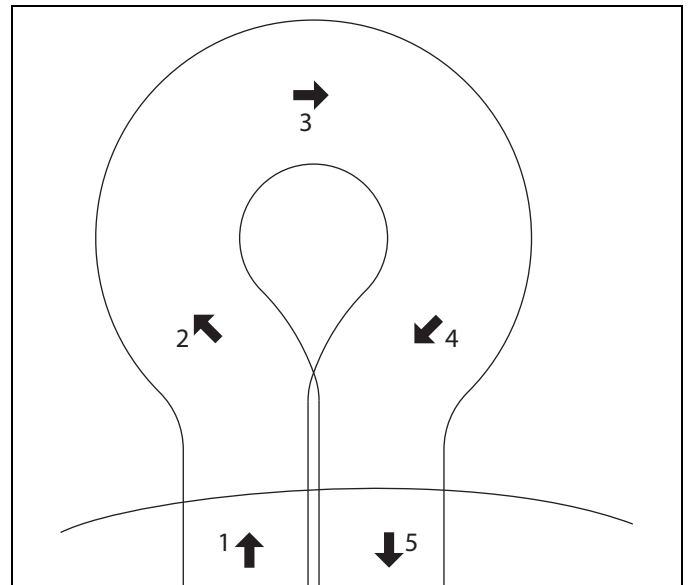

Figure 5C
- e. To turn to the right, start by turning mower slightly to the left **(2)**. When the mower has moved approximately 1/2 its own width to the left, swing it around quickly to the right **(3 and 4)**, guiding the mower with your right hand. This method makes it possible to turn around quickly with very few steps. **[Figure 5C].**